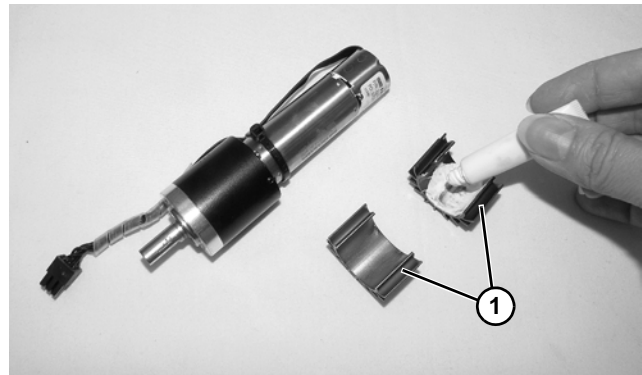

Figure 74
- Add heat sink compound to heat sinks (**Figure 74, item 1**) before reinstalling to motor.